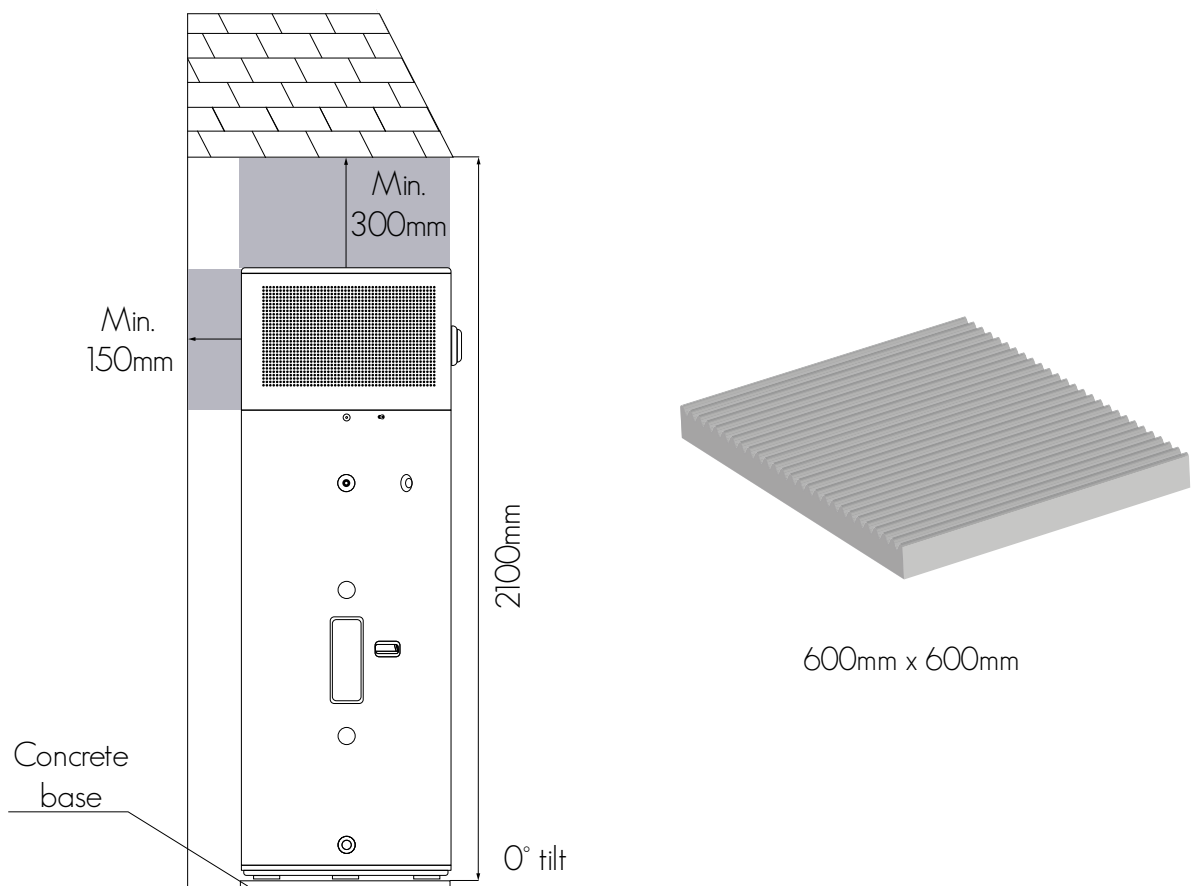

Figure 1: Side profile installation requirements and an example concrete base.
- Avoid placing the system in locations with multiple walls or structures (See Figure 1 & 2). Always maintain optimum perimeter from all structures.